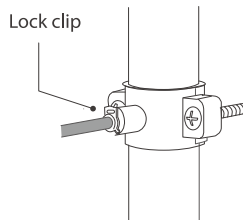

Figure 10
e. Pop the lock clip onto the fitting to secure the connection. **(Figure 10)**